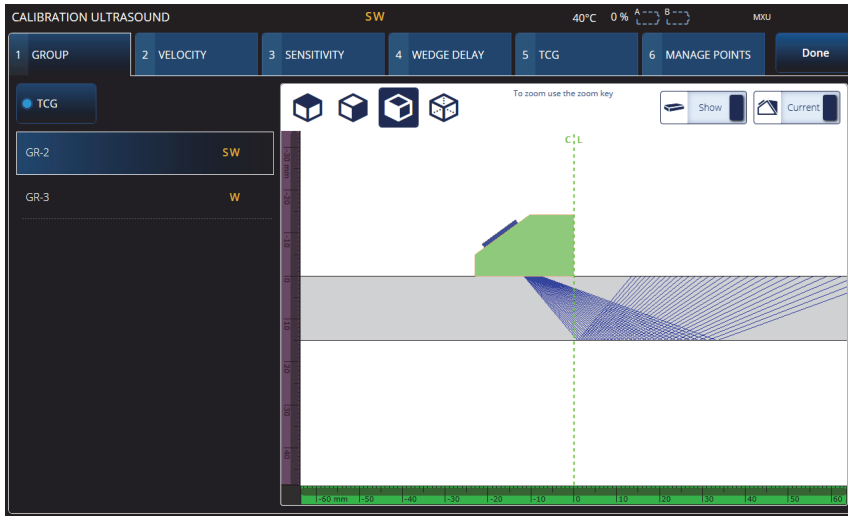

Figure 4-1 Calibration > Group
1. Select **☰** > **✎ Plan & Calibrate** > **Calibration Tools** to access the **PA/UT/TFM Calibration** wizard (see Figure 4-1 on page 162). See “TOFD Calibration” on page 180 to perform a TOFD calibration. Like the Scan Plan wizard, the Calibration wizard’s workflow is separated into several tabs or sections (for different types of calibration).
2. On the **Group** tab (see Figure 4-1 on page 162), select the group you wish to calibrate. For a UT group, also choose the sizing method to calibrate: **TCG**, **DAC**, or **DGS**.